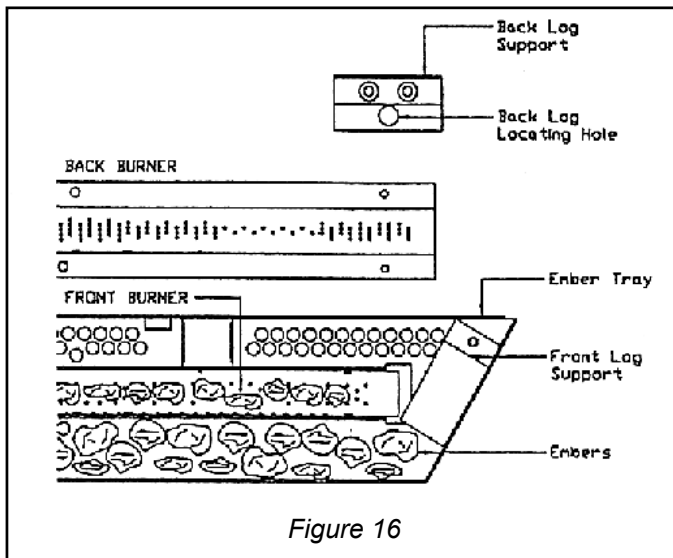

Figure 16
1. Gently remove the ember material from the plastic bag. Spreading these pieces evenly across the front of the ember tray, Use only a single layer. Do not pile embers. Place a single row of embers on top of the front burner. (Figure. 16)